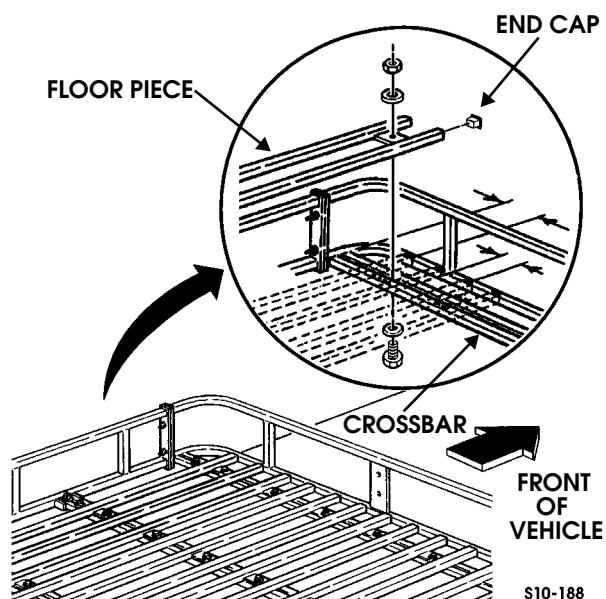

Figure 13-54: Roof Rack Floor Piece
2. Remove four locknuts, washers, bolts, washers, and floor piece from crossbars and rack ends (Figure 13-54).
1. Install floor piece on crossbars and rack ends with four washers, bolts, washers, and locknuts. Tighten locknuts to 25 lb-ft (34 N•m) (Figure 13-54).